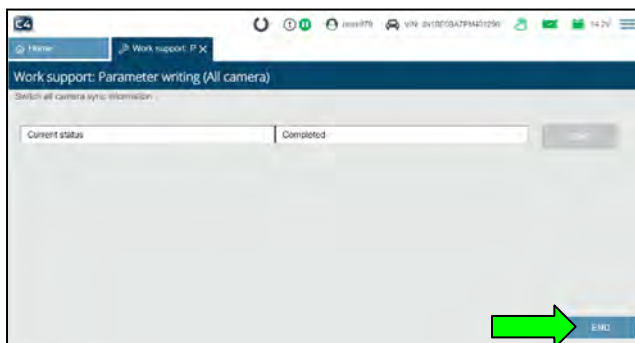

Figure 13
- It may take up to 5 minutes for the screen in Figure 13 on page 8 to display once the green Play icon is selected.
- If the **Parameter writing** is successful (Figure 13), select **END** and then continue to step 12.